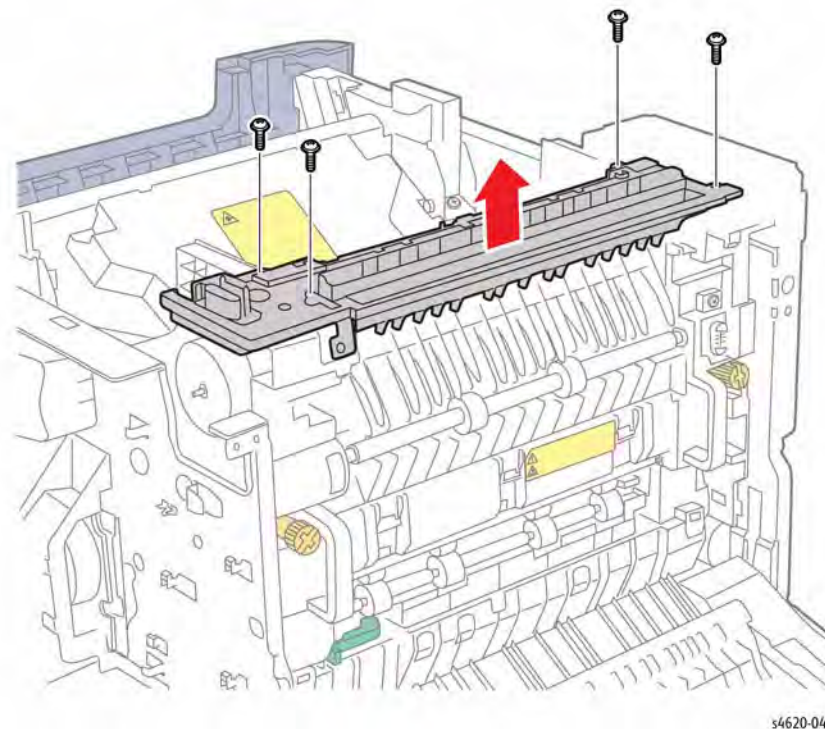

Figure 2 Remove the Exit Chute screws
11. Lift the chute and rest on the support bracket, Figure 2.